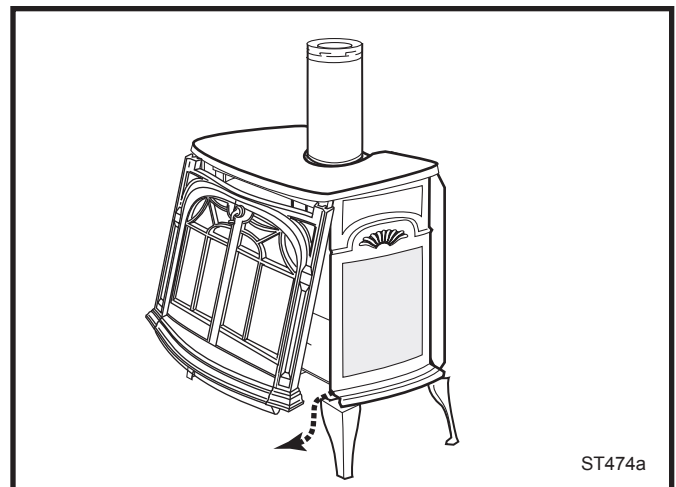

Fig. 63 Remove the stove front.
1. Remove stove front. Lift stove front up and then swing bottom out and away to disengage from the stove body. (Page 33, Fig. 63)
Replace glass only with CFM Corporation approved parts. Refer to Page 36 for Replacement Parts. Refer to Figure 63 and previous instructions for removal of the damaged glass frame.
1. Remove the Front, Glass Frame and Glass Panel. (Figs. 63 & 64) Remove the old gasket. Use a razor blade to separate the glass and gasket from the frame, and to clean the glass of any remaining cement or bits of gasket. Use a cold chisel if necessary.